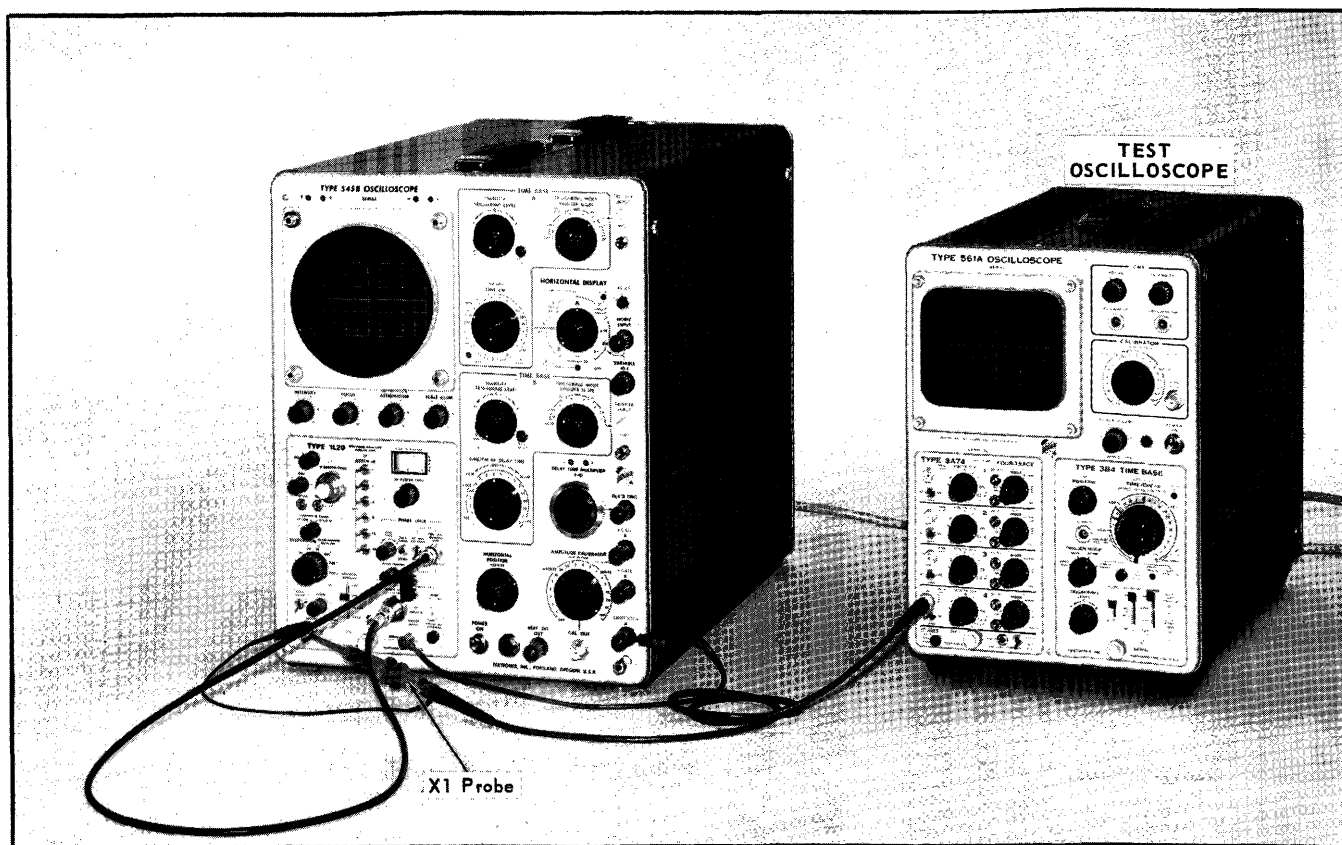

Fig. 6-23. Setup for checking TO RECORDER Output (Step 17).
a. Connect the equipment as shown in Fig. 6-23.